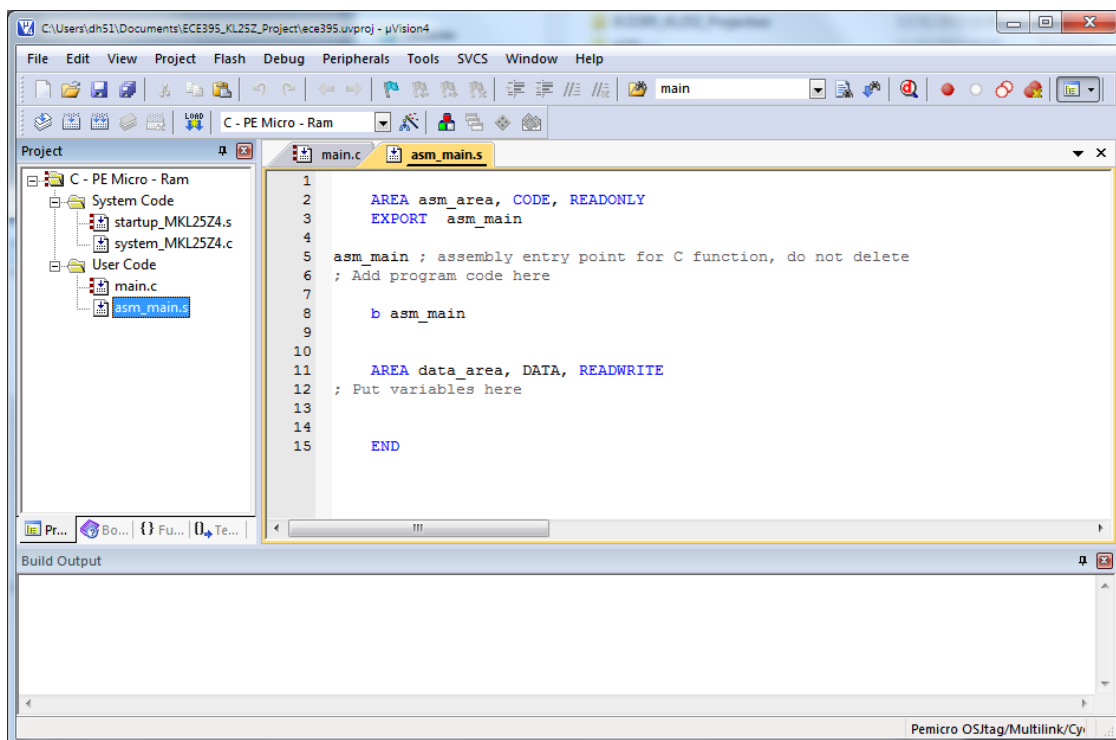

Figure 9 - Default project file asm_main.s
Step 5: If this is a program in assembly, in "main.c", uncomment the beginning of the line `asm_main()`; and open the file "asm_main.s". (Figure 9)